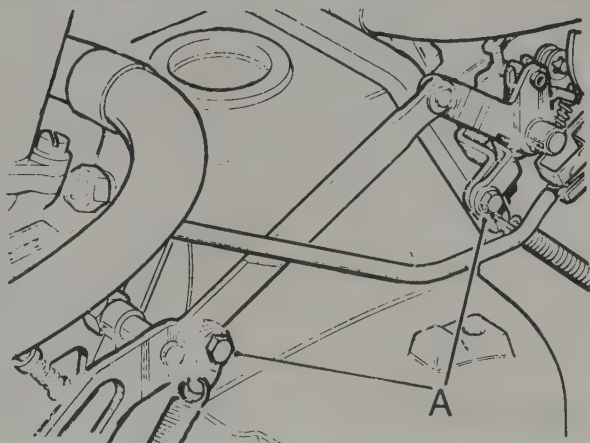

Fig. 3.22. Throttle adjusting levers and locking bolts (A)
- 7 Release the throttle adjusting lever screws "A" on both carburettors. (Fig.3.22).